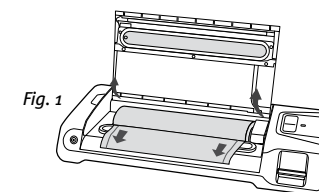

Fig. 1
1. Open Lid and pull bag material over the Sealing Strip.(Fig. 1)